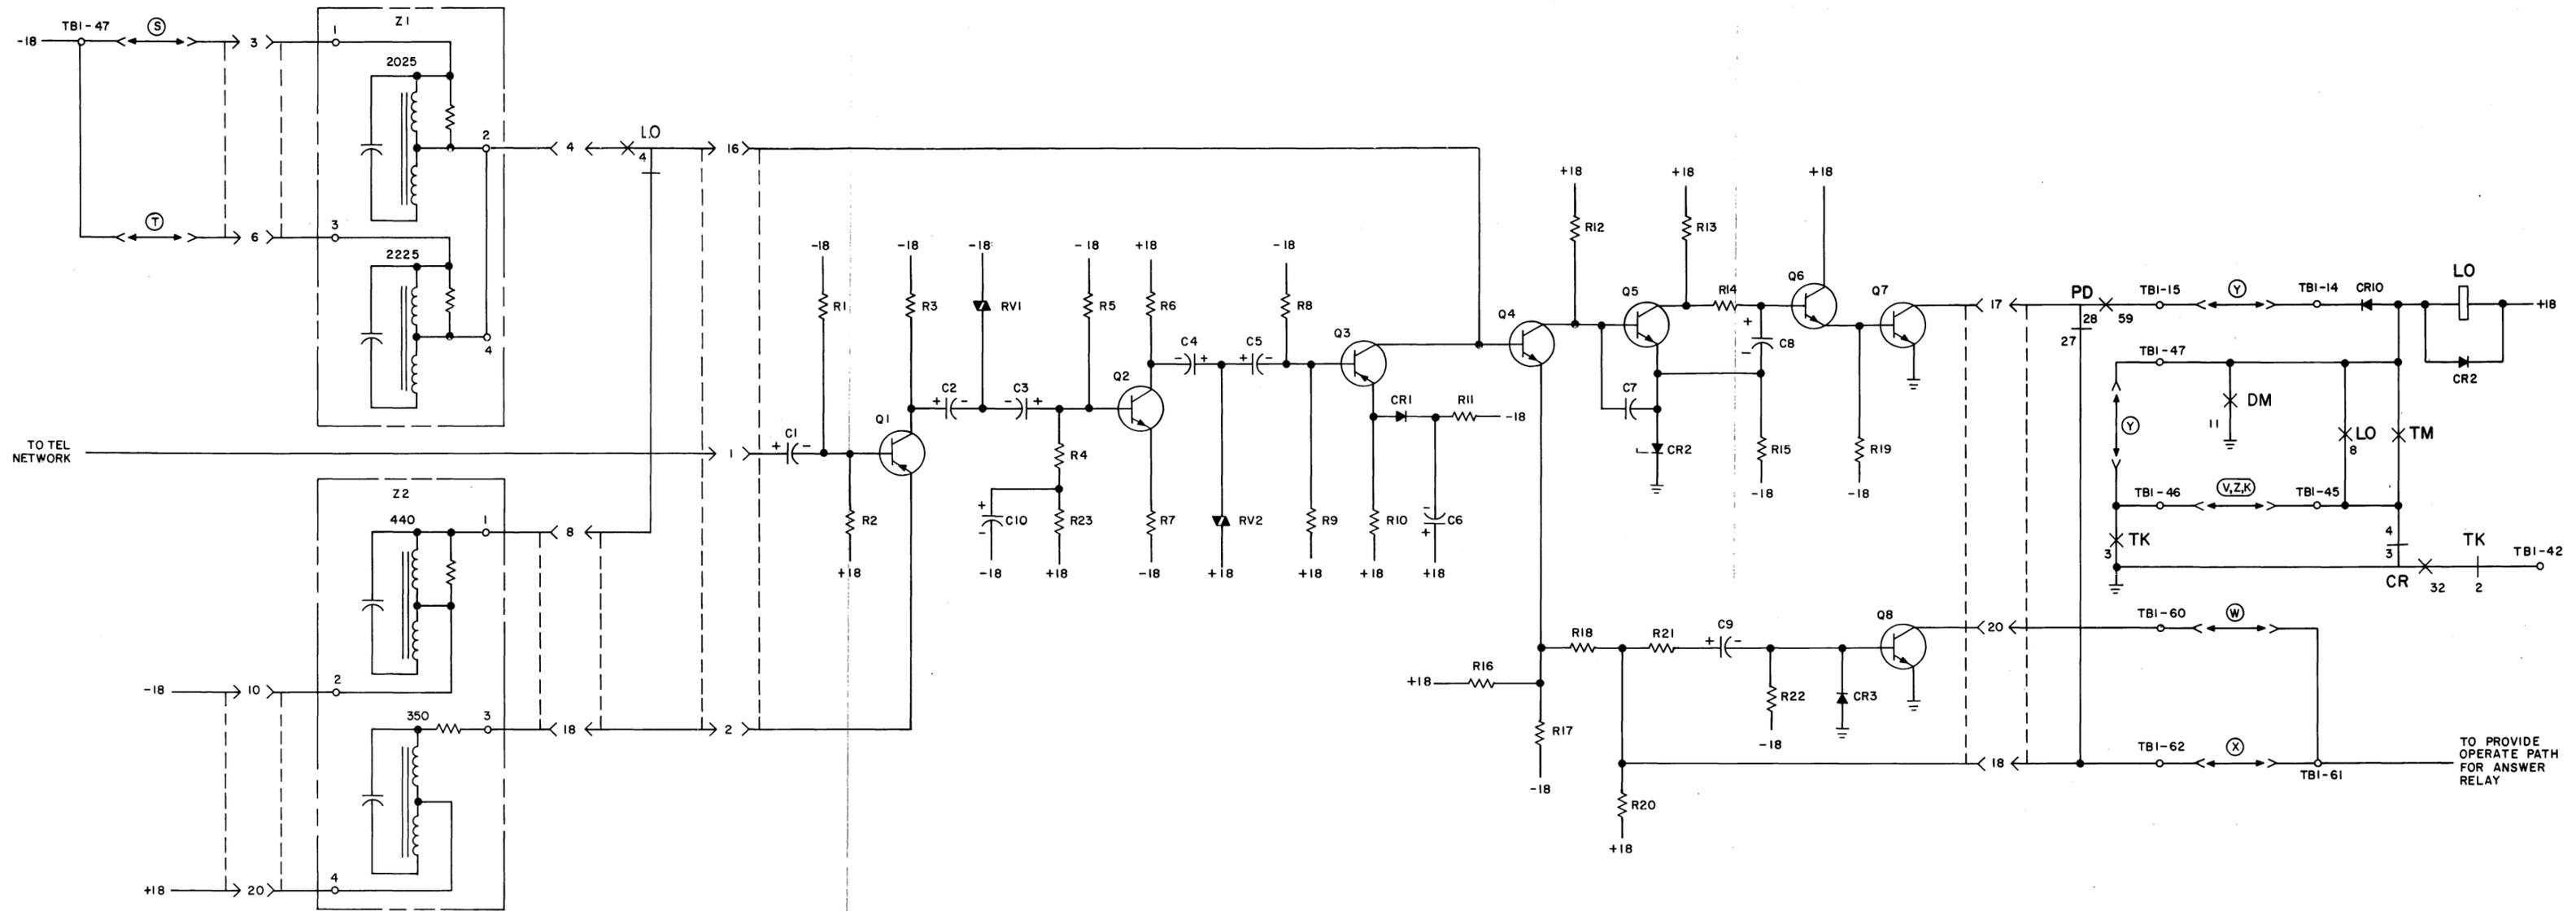

Fig. 18—Limiter Detector and Tuned Circuits—Schematic Diagram
3.35 The tuned circuits which are used in conjunction with the limiter circuits are shown in Fig. 18. They consist of two networks, each network having two resonant circuits. The 350-Hz resonant circuit is used to reduce the gain of the input stage of the limiter to the 350-Hz portion of the new standard dial tone because it would interfere with the 440-Hz detection. The 440-Hz resonant circuit sets the frequency to which the output of the dial tone detector is sensitive. When answer-tone detection is provided, network Z1 provides two parallel resonant circuits which allow for the detection of either 2025-Hz or 2225-Hz tones. Option straps are used to select the tuned circuit required.